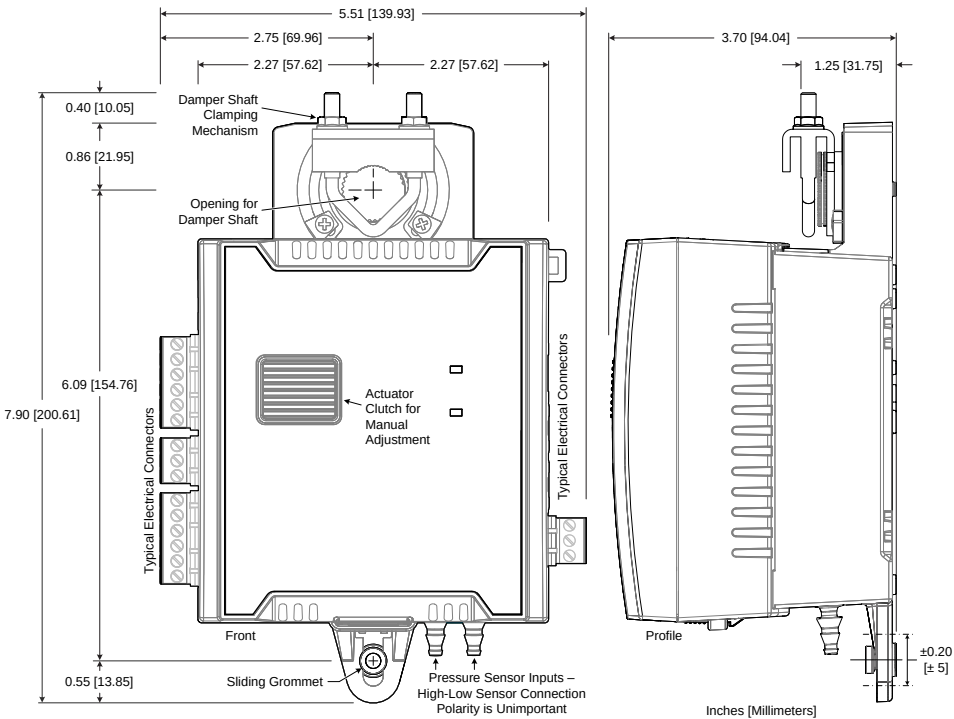

Figure 3: ECY-VAV Model Dimensions and Component Identification (Typical)
5. Determine the direction required to close the damper: Clockwise (CW) or Counterclockwise (CCW). Turn the damper shaft with a pair of pliers to fully close the damper for 90° boxes or fully open the damper for 45° or 60° boxes
6. Press and hold down the *Actuator Clutch for Manual Adjustment* button (see Figure 3), and turn the controller's shaft coupler until it touches the mechanical end-stop to either the fully closed position (90° boxes) or the fully open position (45° and 60° boxes).